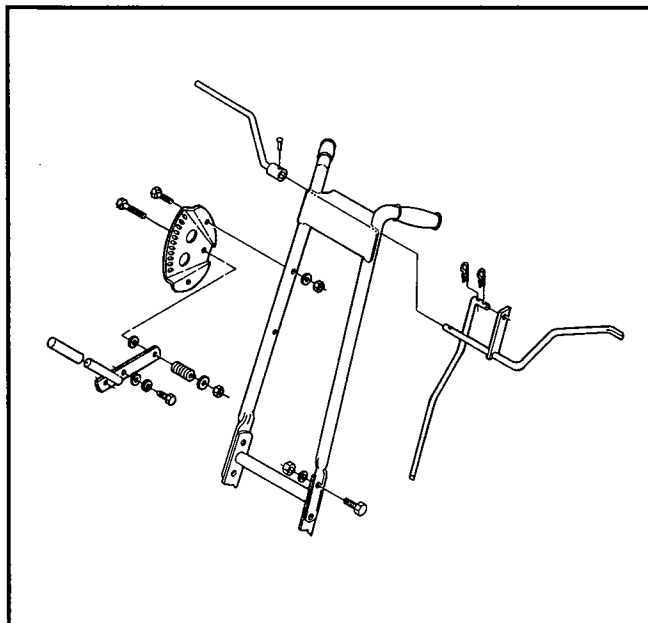
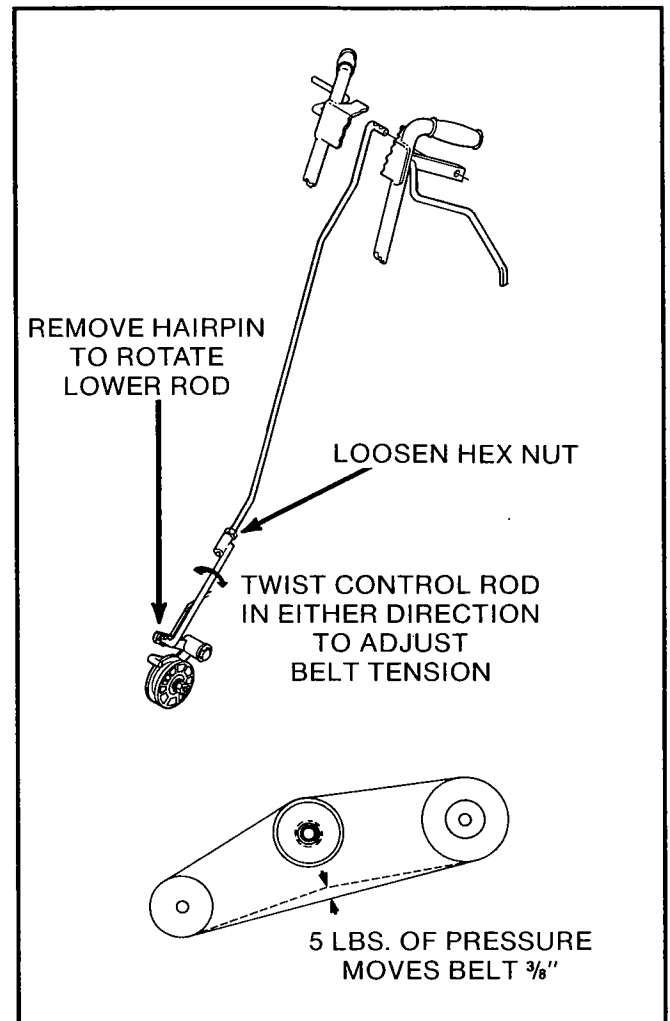

Figure 3
Figure 4
1. Install upper handle assembly with bolts as shown in Figure 3 using (4) 5/16-18 x 1, (4) 5/16 lockwashers and (4) 5/16 hex nuts.
2. Attach height adjustment index to upper handle assembly using (2) 5/16-18 x 1-1/2" hex head bolts, (2) 5/16 flat washers, and (2) 5/16-18 elastic stop nuts.
3. Install tube-type control rod on right hand side between front wheel height lever and index quadrant using (4) hair pin cotters to secure it.
4. Install operator presence safety control rod with the long rod at the top and the short rod at the idler pulley arm using hair pin cotters. Adjust length of rod for normal tension of belt. (See Figure 4) Fill engine with oil as described under Operating Instructions. Lubricate all grease fittings with lithium based grease.